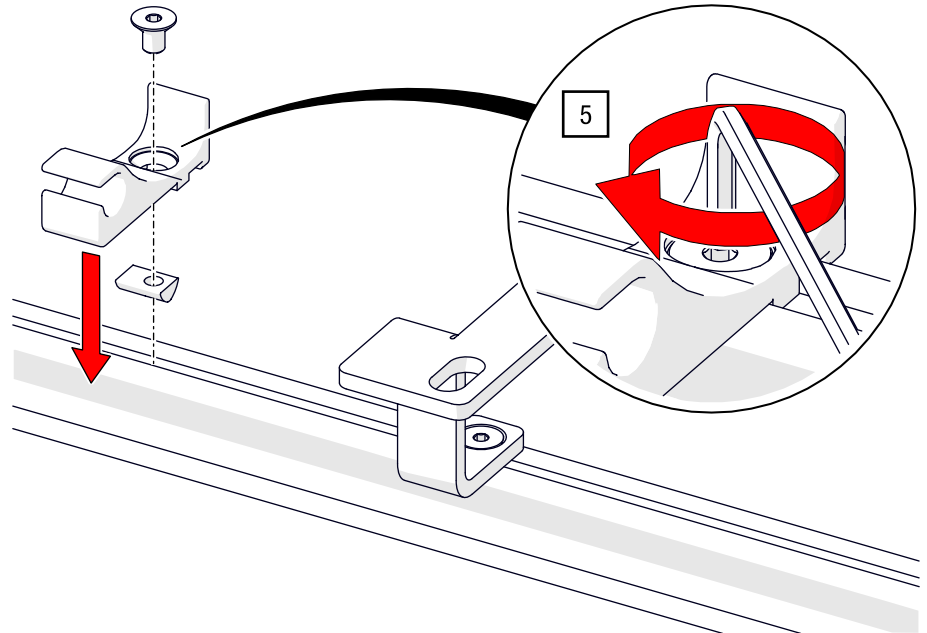

Fig. 74: Top cord operation – Mount straight cord guide
5. Position one of the straight cord guides near each suspension, distribute the rest along the remaining straight track section (protruding side on the opposite side of the cord clamp) and fasten the cord guides using a hex key AF 3 (see Fig. 74).